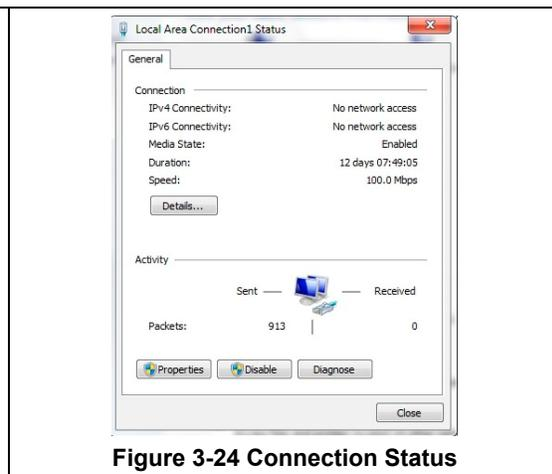

Figure 3-24 Connection Status
- Select **Properties** button from the Local Area Connection Status window, Figure 3-24